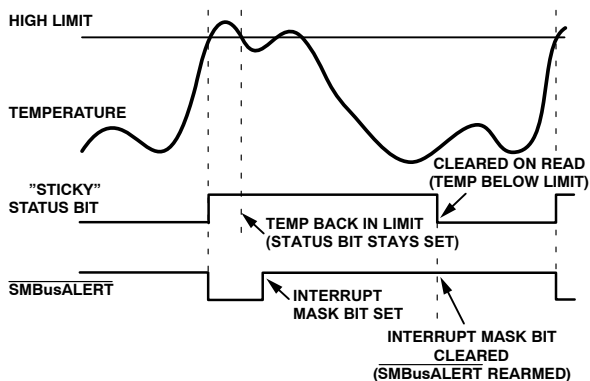

Figure 31. Handling SMBusALERT
7. Periodically poll the status register. If the interrupt status bit clears, reset the corresponding interrupt mask bit to 0. The SMBusALERT \bar output and status bits then behave as shown in Figure 31.